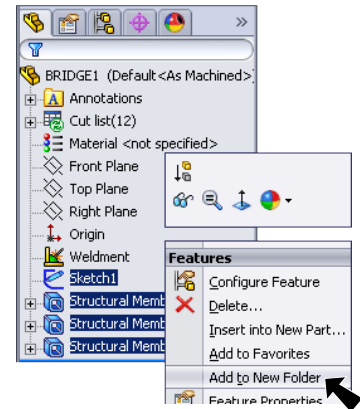

Fig. 31
Step 1. **Ctrl click Sketch1 and all 3 Structural Members** features in the Feature Manager to select. Release Ctrl key, **right click** and select **Add to New Folder** on the Content menu, **Fig. 31**.